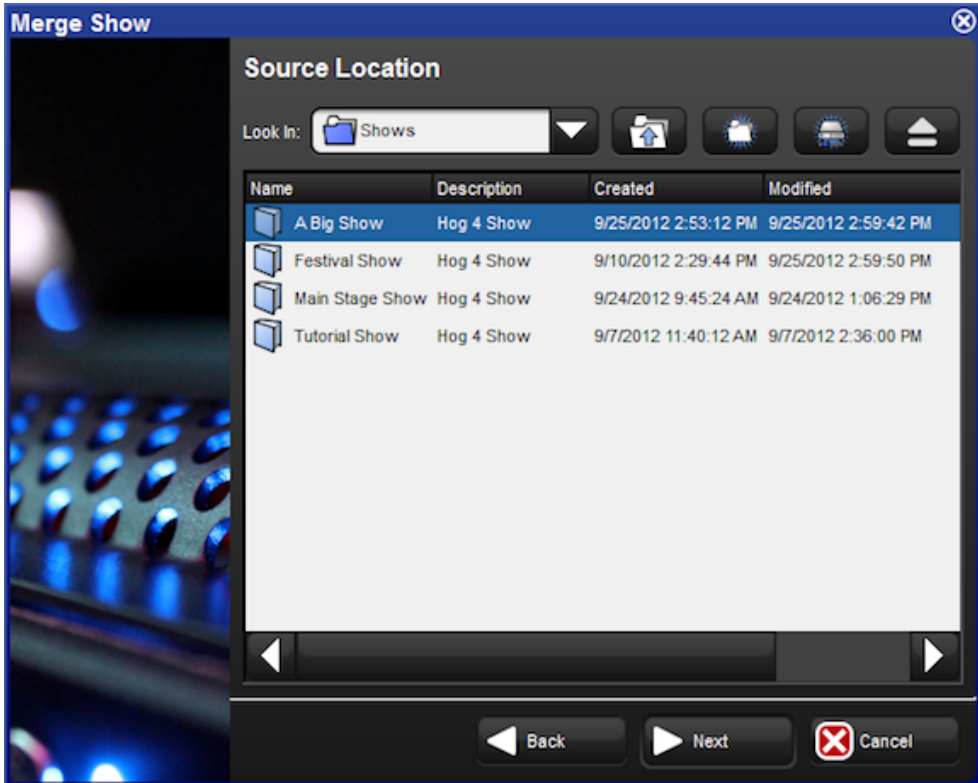

Figure 4.4. The Source Location page of the Merge Show window
2. Press Merge to be guided through the merge process. The Merge Show window will open; see *Figure 4.4, “The Source Location page of the Merge Show window”*.